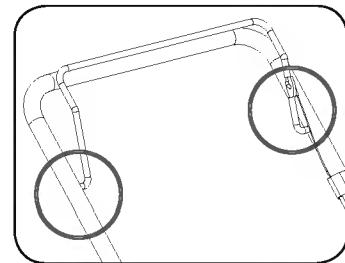

Figure 14
1. Lubricate pivot points on the blade and drive controls at least once a season with light oil. These controls must operate freely in both directions. (See **Figure 14**)